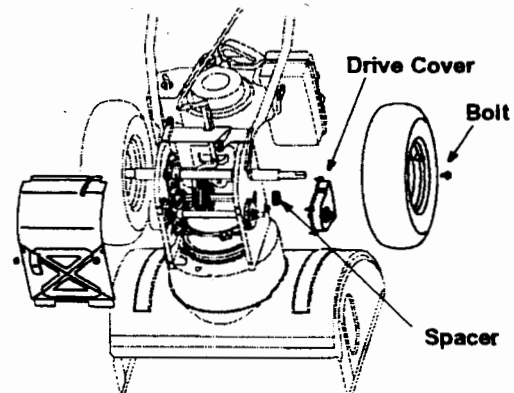

Figure 22
5. Remove the four screws securing the right drive cover to the frame. Remove the drive cover from the side of the frame. See Figure 22.